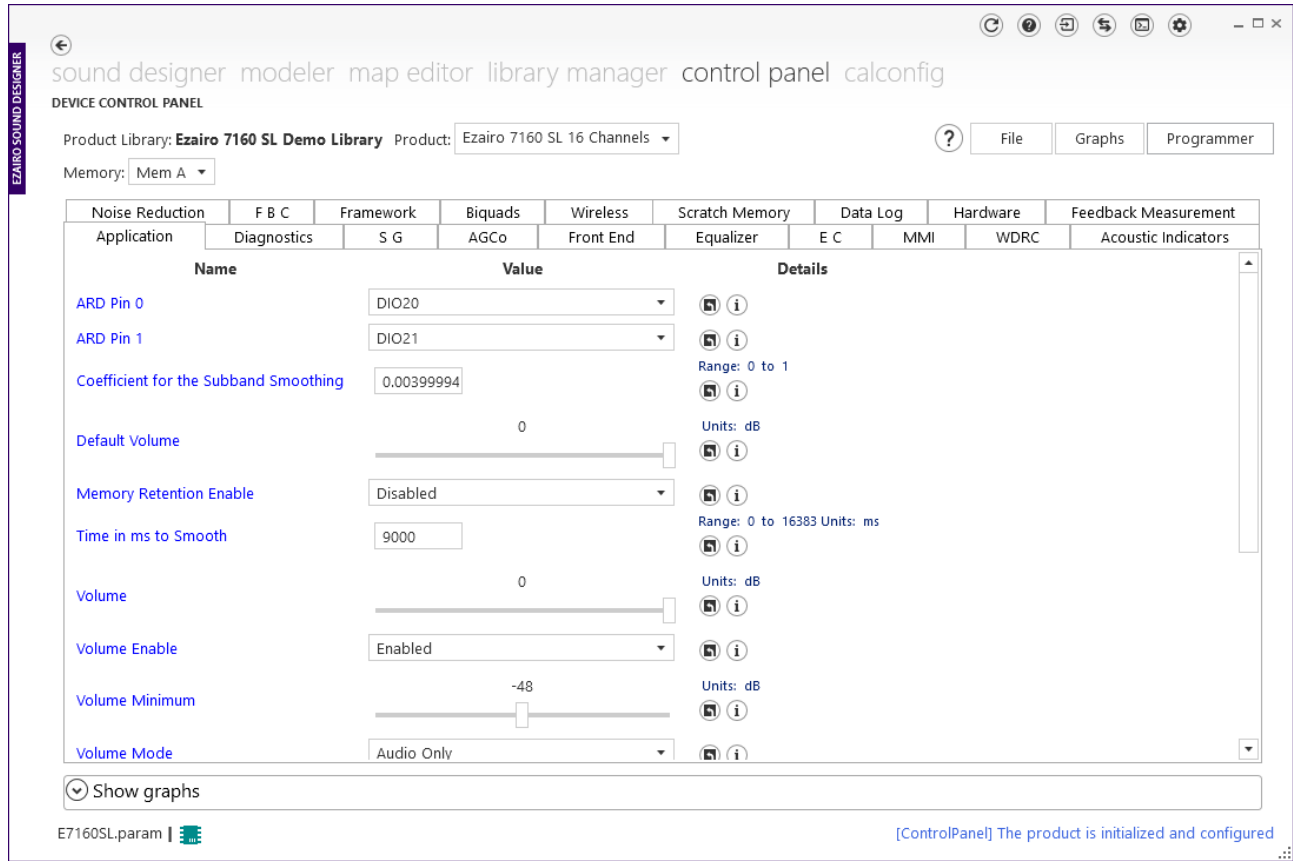

Figure 11. Successful Connection
10. Once the connection succeeds, the connection status symbol appears to the right of the file name, as shown below in the "Successful Connection" figure (Figure 11). You can hover over this symbol to view the programmer name and the firmware ID of the device. It is now possible to configure the device parameters.